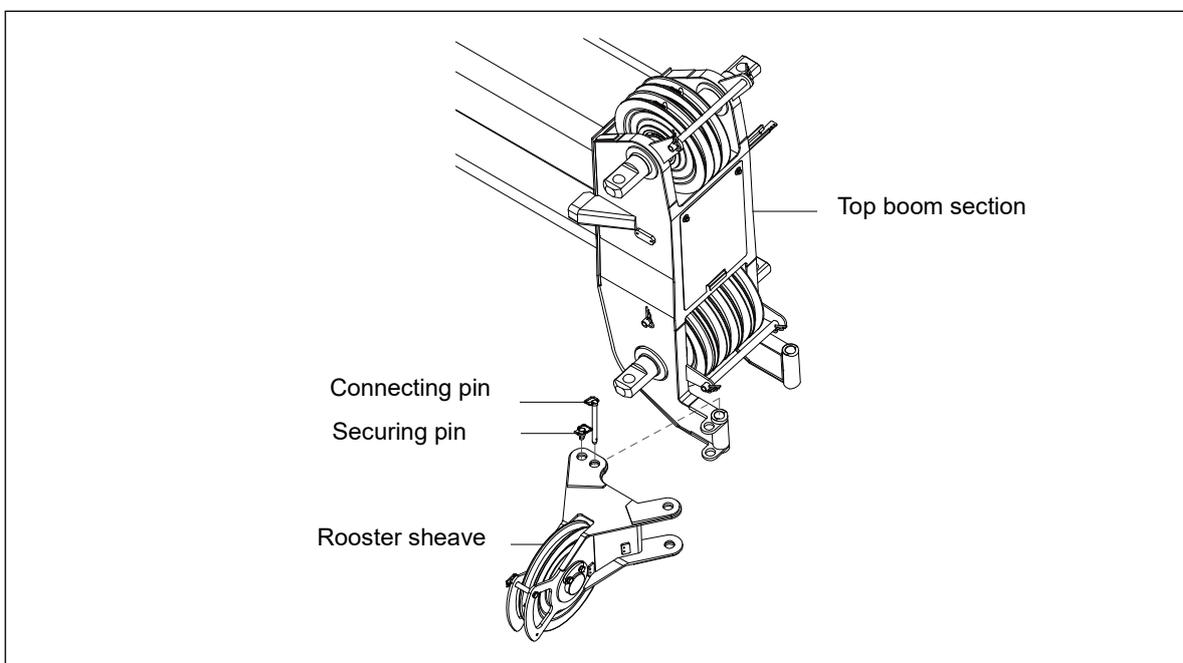

Figure 5-23 Rooster sheave assembly
- Remove the securing pin and move the bracket to the front of the boom. Align the pin holes. Install the connecting pin. See Figure 5-23.